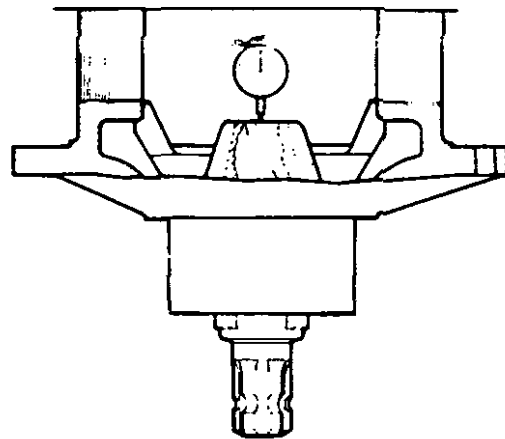

FIGURE 17 POSITION OF DIAL GAUGE
- 5 Put the dial gauge in a position so that the probe is against the face of the pinion. See Figure 17.